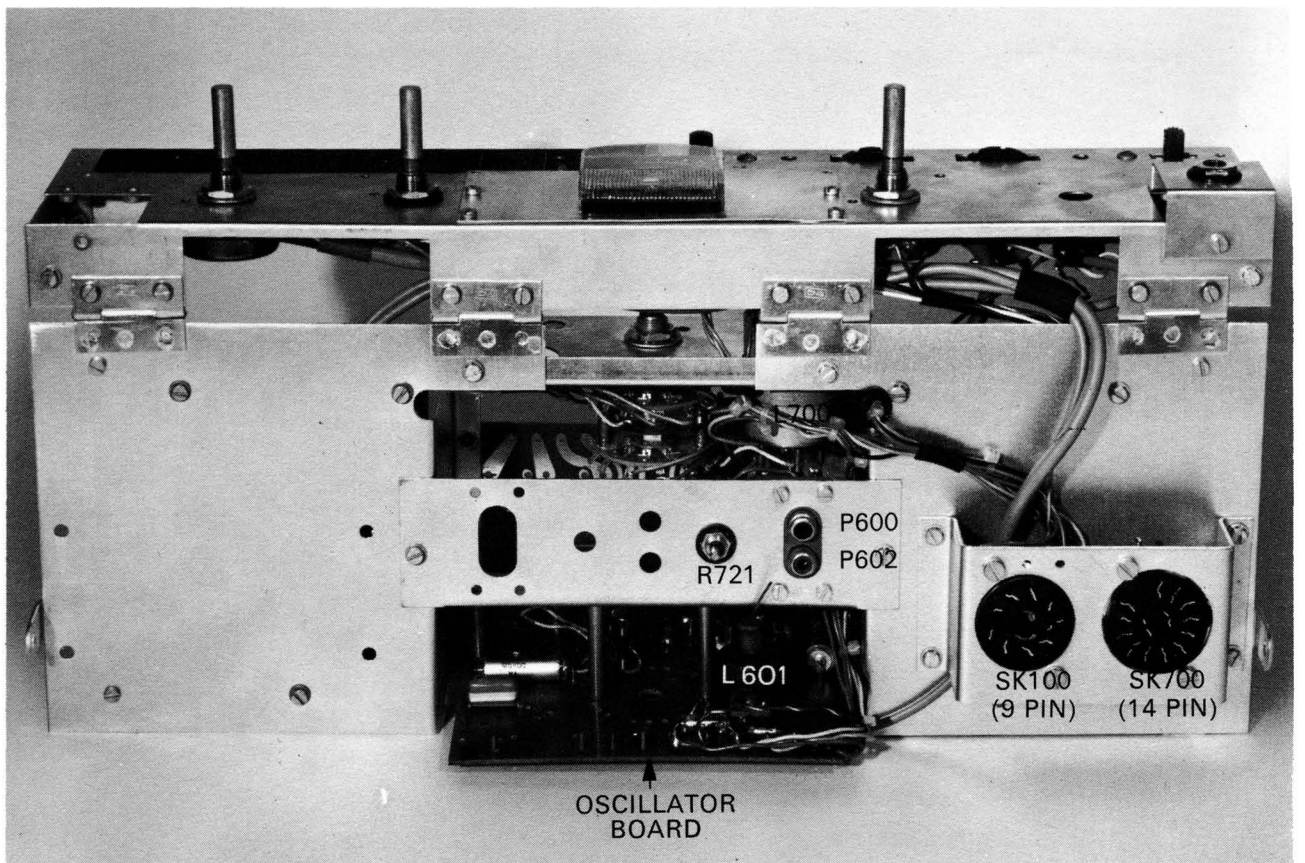

FIG. 5. AMPLIFIER—MONO, REAR VIEW
- (iii) Unplug the erase and record head leads from the phono socket at the rear of the amplifier (Fig. 5)—there are four connections on stereo models (Fig. 3).